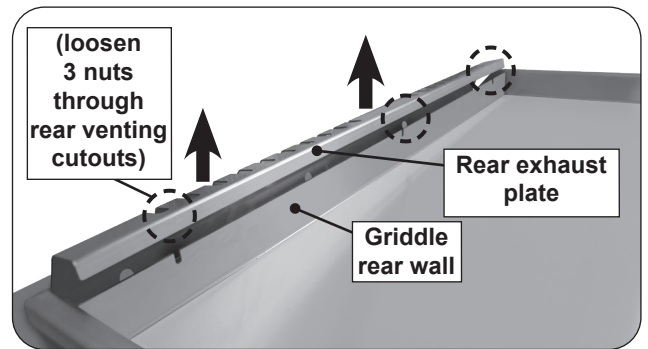

Fig. 40-1 Rear exhaust plate removal
2. Remove the rear exhaust plate by loosening the three nuts (no need to remove nuts completely), then lift the panel up from the griddle top (see Fig. 40-1).